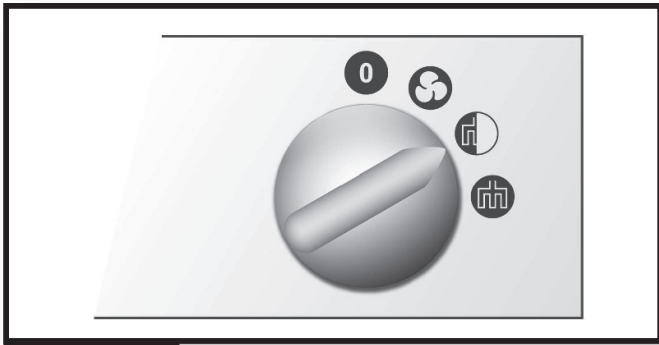

Fig. 5
- ▶ 1st degree of heating: Fig. 5,